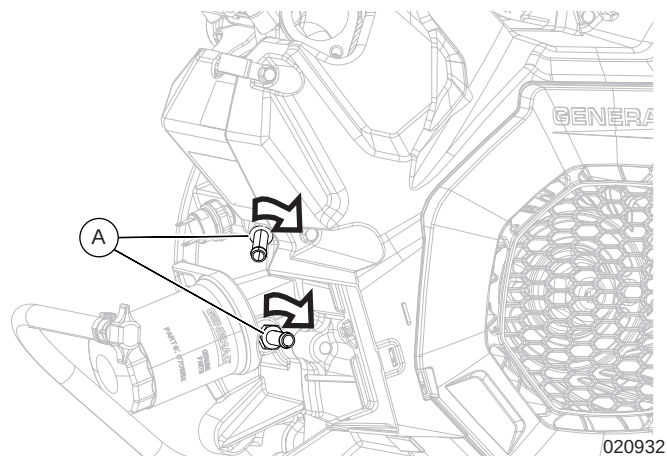

Figure 12-21. Oil Cooler Barbed Fittings
2. See Figure 12-21. Install screw (A) fastening the oil level switch (B) to engine.